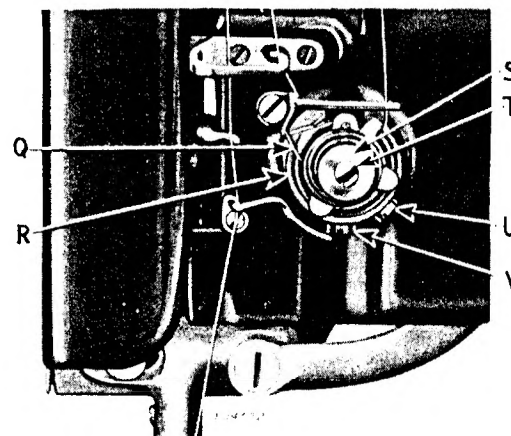

Fig. 18.
THE TENSION ON THE NEEDLE THREAD SHOULD ONLY BE REGULATED WHEN THE PRESSER FOOT IS DOWN. Having lowered the presser foot, turn the thumb nut (S, Fig. 18) at the front of the tension discs over to the right to increase the tension. To decrease the tension, turn this thumb nut over to the left.
The function of the thread controller spring (Q, Fig. 18) is to hold back the slack of the needle thread until the eye of the needle nearly reaches the goods in its descent, as without this controlling action of the spring, the slack thread or silk (more especially silk) will sometimes be penetrated by the point of the needle as the needle is descending.
For more controller action on the thread, loosen the stop screw (U, Fig. 18) and set the stop (R) lower. For less action, set the stop higher. The position of the controller spring (Q) shown in Fig. 18 is the best average setting for stitching fine fabrics and light leathers.
To strengthen the action of the controller spring on the thread, loosen the tension stud screw (V, Fig. 18), and turn the tension stud (T) slightly to the left with a screwdriver. To lighten the spring action, turn the stud to the right, then tighten the tension stud screw (V).